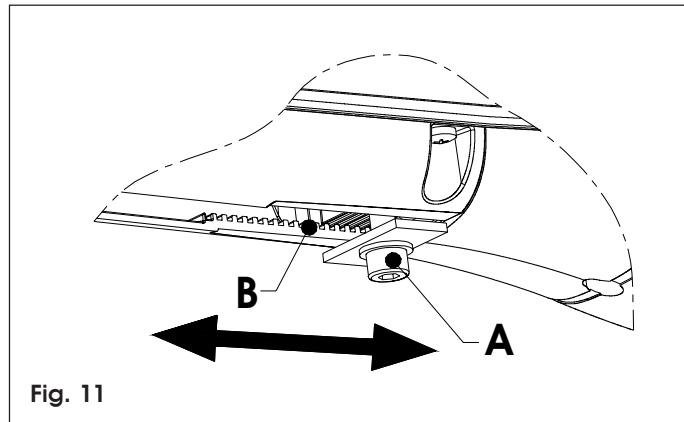

Fig. 11
- 3) Loosen the fixing screw, Fig.11 ref. **A**. There is no need to fully remove the screw.
Attention: the mechanical stop operates coupled to a sector gear, Fig. 11 ref. **B**, if anything occurs to impede movement, make sure the coupling is unrestricted. **Do not force.**